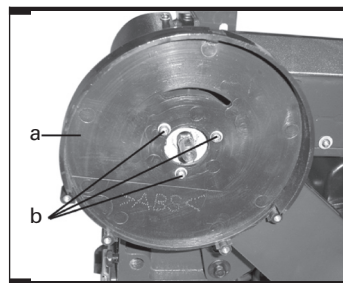

Fig 1
1. Assembling disc guard (See Fig 1)